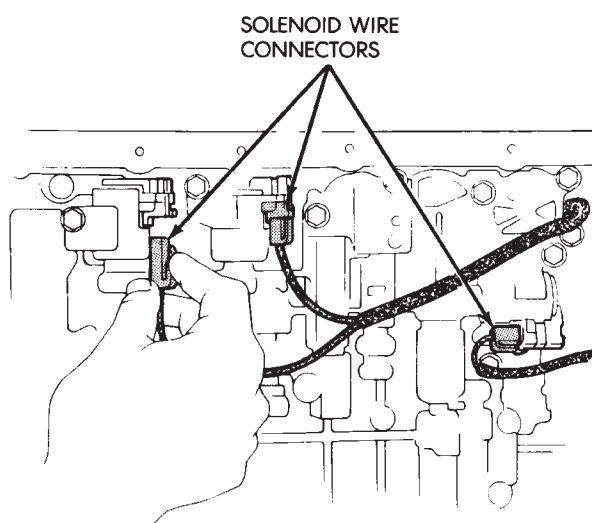

Fig. 61 Connecting Valve Body Solenoid Wires
- (80) Connect valve body solenoid wires to solenoids (Fig. 61).
- (81) Install new O-ring on solenoid harness adapter and secure adapter to case.